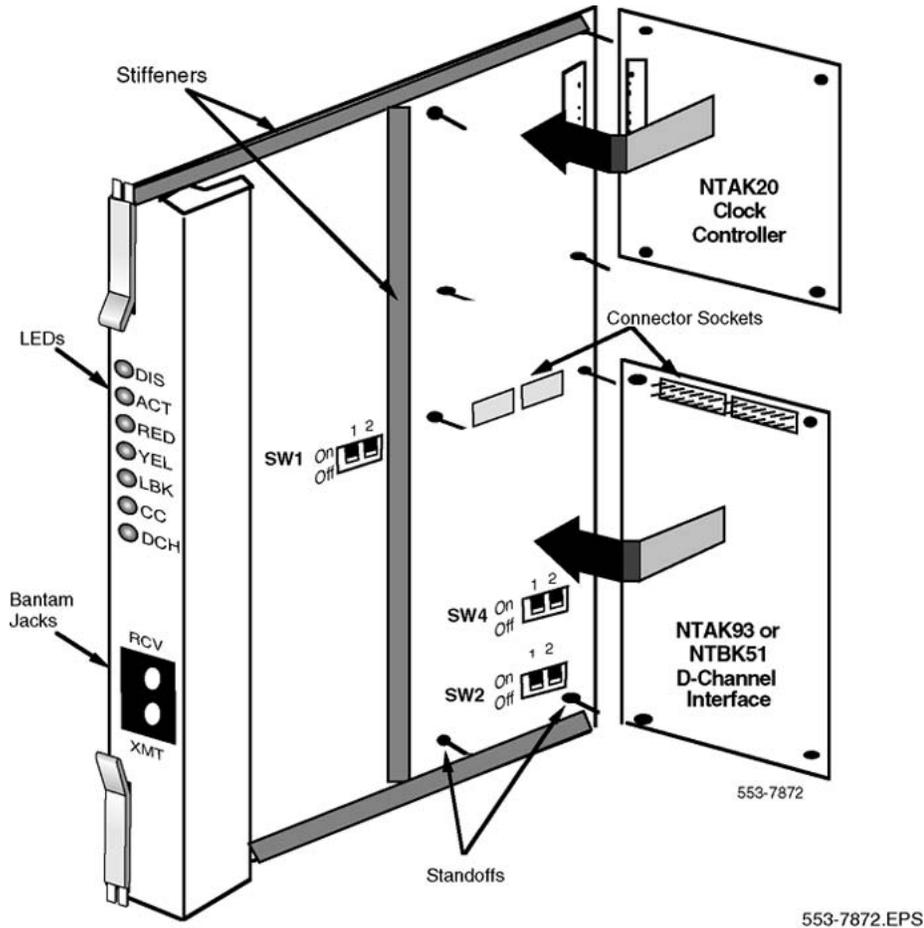

Figure 92: Daughterboard installation
3. From an overhead view, with the daughterboard parallel above the NTBk50 and the connector pins aligned over the connector sockets, align the mounting holes on the daughterboard with the tops of the standoffs on the NTBk50 (see Figure 92: Daughterboard installation on page 317).